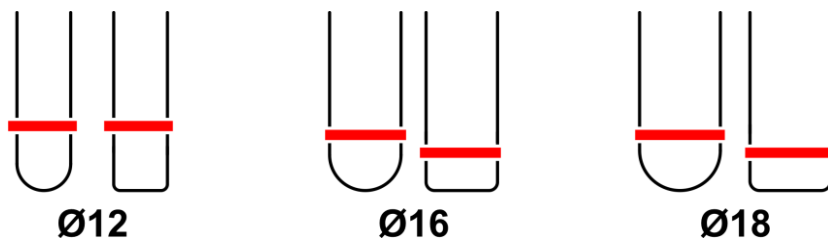

Figure 4. Path of the measuring beam
5.4. Check the sample level in the tube. The unit measures at different height of the tube, depending on its diameter and shape (figure 4). Make sure that the sample is higher than: